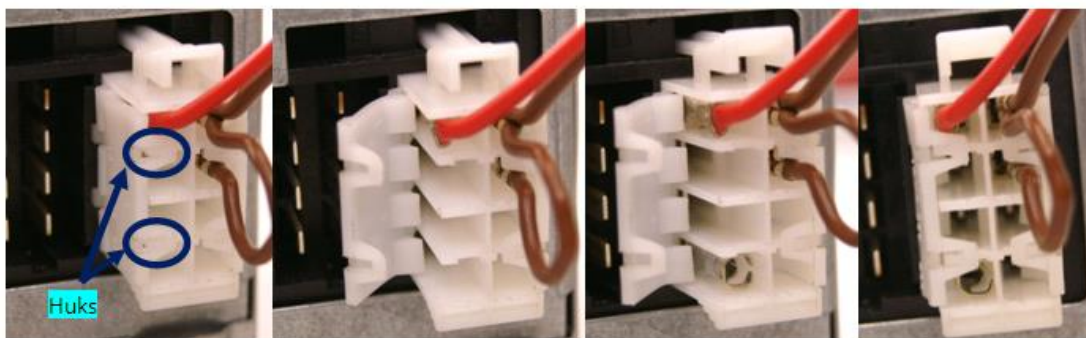

Figure 106 Adding contact on tachograph connector
- Tachograph mounted on vehicles does not have D8 contact. In order to add it, you have to undo the hooks and add the contacts (Figure 106). Contact code in Farnell system: 927368-1.